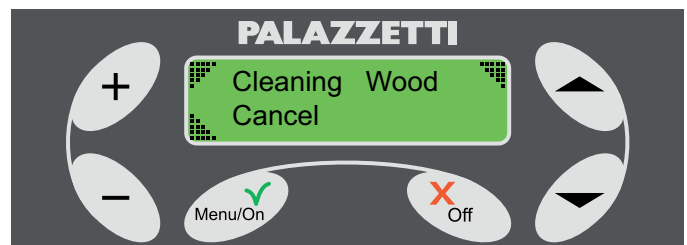

Fig. 1.3.6
It is however possible to make an immediate changeover of fuel, without waiting for the end of START-UP phase by pressing the Off button for at least three seconds. A multiple choice menu will appear (Fig. 1.3.6). Within twenty seconds, press the key "▲" to go directly to WOOD status, otherwise the fireplace will revert to the start-up phase.
- 5) Hold down the Off button for at least 3 seconds to access the menu (Fig. 1.3.6) where it is possible to choose (by pressing key "▲") the WOOD status display.